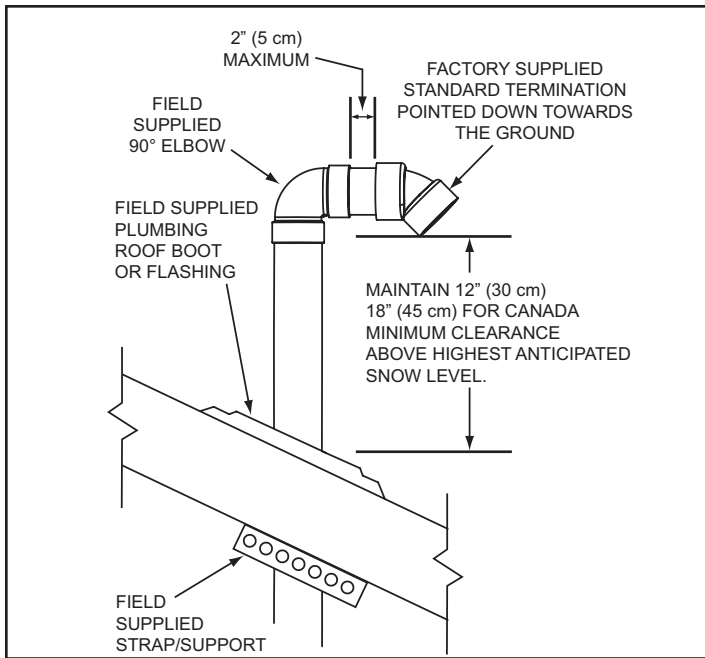
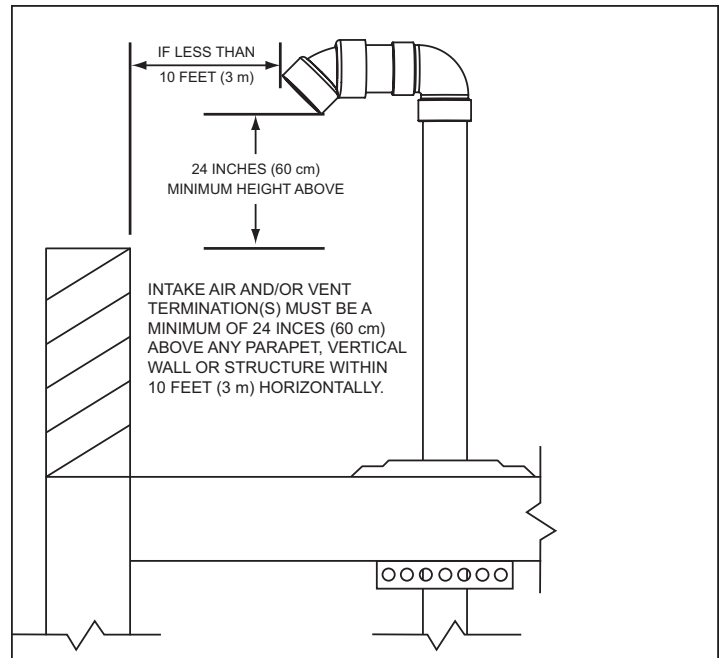
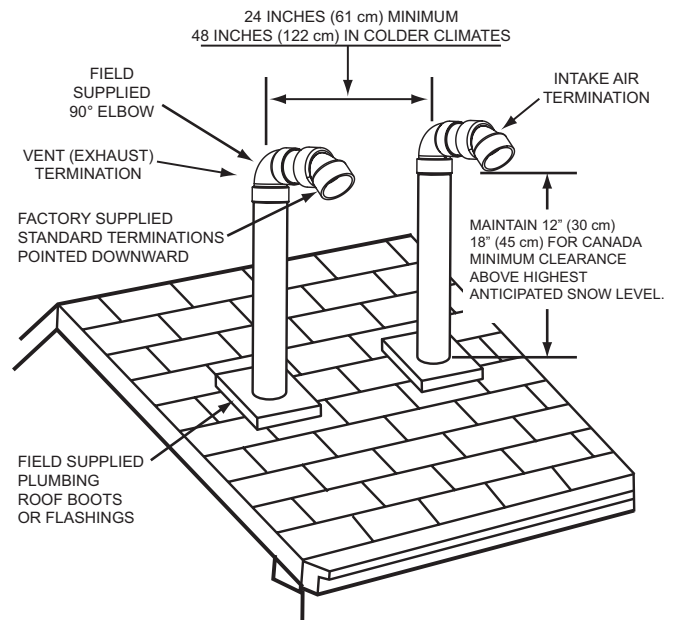

Figure 19. Vertical Termination(s) Installation
Figure 20. Vertical Termination(s) Flat Roof Clearance
Figure 21. Vertical Termination - Direct Vent
2. If installing only the vent (exhaust) piping in a Power Vent configuration vertically through the roof; ensure that all exterior vertical clearance requirements, shown in **Figure 19** and **Figure 20** (page 30), are being maintained. These clearances and those cited by local and national codes must be maintained.
**Note:** On flat roof installations the vent termination must be a minimum of 24 inches (60 cm) above any parapet, vertical wall or structure within 10 feet (3 m) horizontally. See **Figure 20** (page 30).
3. If installing both intake air and vent piping in a Direct Vent configuration vertically through the roof; ensure that all exterior vertical clearance requirements shown in **Figure 20** (page 30) and **Figure 21** (page 30) are being maintained. These clearances and those cited by local and national codes must be maintained.
**Note:** On flat roof installations the intake air and the vent terminations must be a minimum of 24 inches (60 cm) above any parapet, vertical wall or structure within 10 feet (3 m) horizontally. See **Figure 20** (page 30).
The vent termination must be oriented facing downward as shown in **Figure 19** and **Figure 20** (page 30).
The bottom edge of the vent termination must be a minimum of 12 inches (30 cm), 18 inches (45 cm) in Canada, above the average or expected snow level as shown in **Figure 19**.
The intake air and vent pipes must penetrate the same side of the roof as shown in **Figure 21** (page 30).
The intake air and vent terminations must be oriented facing downward and in the same direction as shown in **Figure 21** (page 30).
The intake air and vent terminations must have a minimum separation of 24" (61 cm) measured on center line as shown in **Figure 21** (page 30). In colder climates this separation should be increased to at least 48 inches (122 cm).
The bottom edge of the intake air and vent terminations must be a minimum of 12 inches (30 cm), 18 inches (45 cm) in Canada, above the average or expected snow level as shown in **Figure 19 below** and **Figure 21** (page 30).
The distance between the closest vent and intake air terminations must be a minimum of 24 inches (61 cm) as shown in **Figure 21** (page 30). In colder climates this separation should be increased to at least 48 inches (122 cm).
8. Suspend the pipe(s) through center of hole using field-supplied metal strapping or equivalent support materials as shown in **Figure 19**.
9. Slide a roof boot or equivalent flashing over the pipe and secure roof boot or equivalent flashing to roof (see **Figure 19**) and seal around the flashing.
10. Install the factory supplied intake air and/or vent termination(s) using field-supplied pipe and one field-supplied 90° elbow as shown in **Figure 19**. The short section of pipe that connects between the field-supplied 90° elbow and the factory supplied termination must not be excessive in length. The exposed portion of this pipe shall be no more than 2 inches (5 cm). See **Figure 19**.